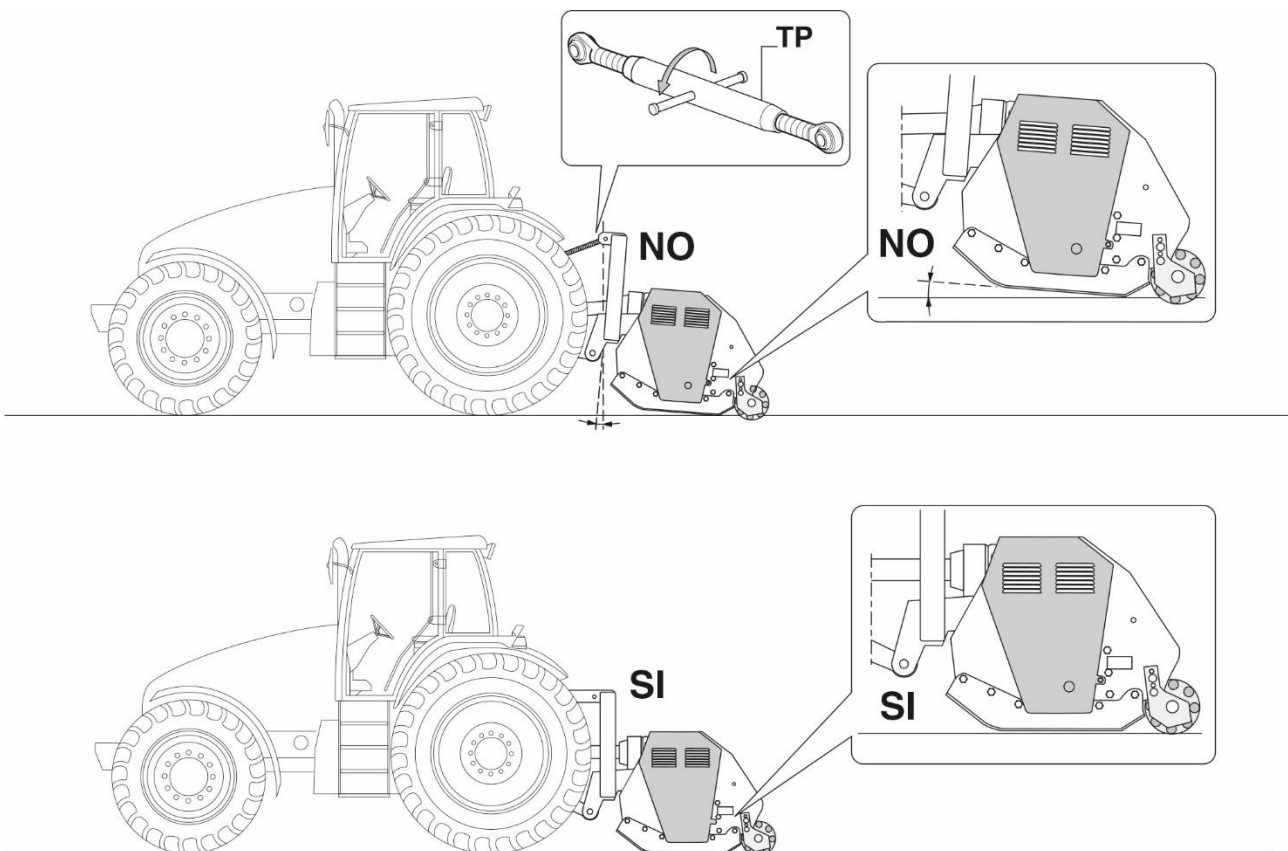

Figure 10
The adjustment must be carried out using the adjustable top link of the tractor (TP) (Figure 10).